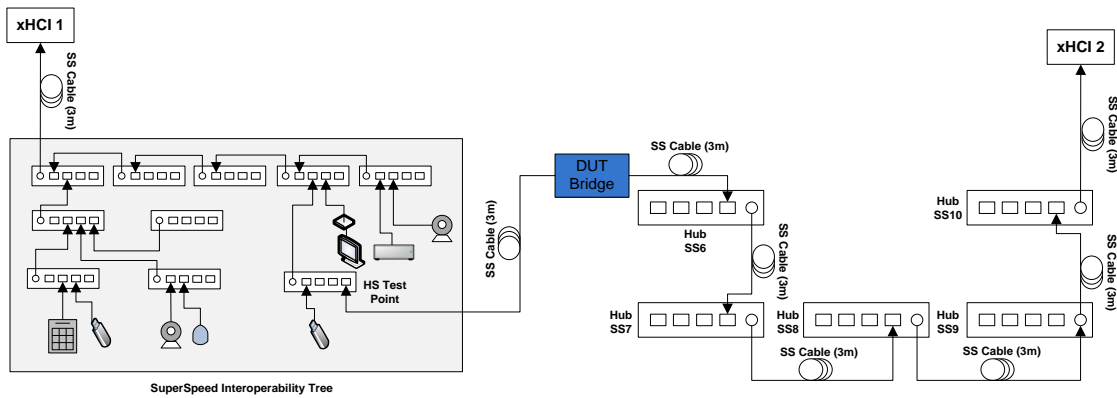

Figure 2-2: PC to PC Bridge Tree Topology Change 1
- While operating the devices, detach the Bridge from SS5 and attach it to HS5 on the PC to PC Bridge Interoperability Tree as shown in Figure 2-2.